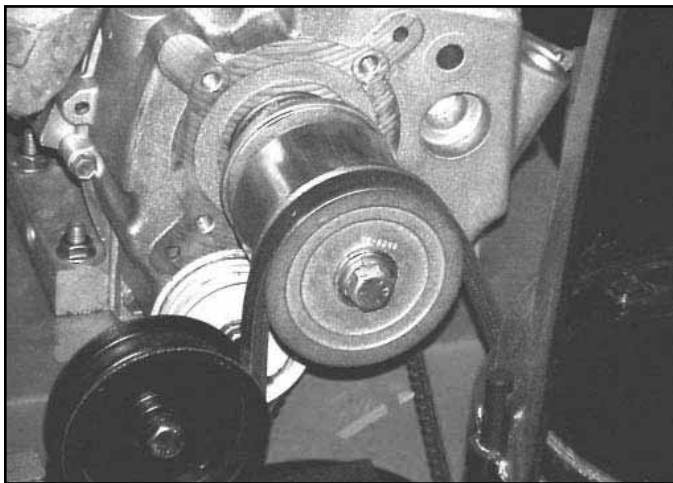

Fig 062
5. Remove the bolt securing the engine pulley to the crankshaft. If necessary, you can hold the hub between the pulley and engine to keep the crankshaft from turning. Remove the pulley flange and the auger belt from the crankshaft (Fig. 062).